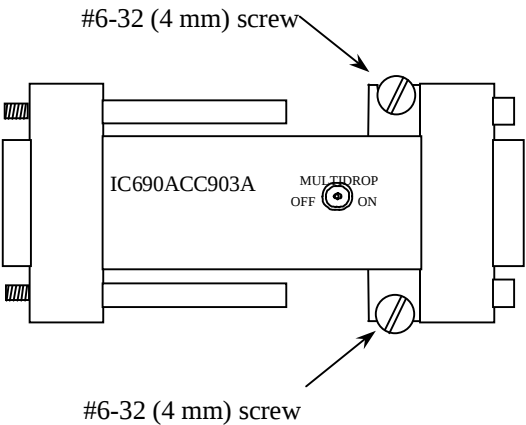

Figure 2. Port Isolator Mounted to Panel
The Isolator is packaged in a plastic enclosure designed for either (1) direct attachment to a serial port or (2) attachment through the optional IC690CBL003 12” extension cable for panel mounted applications. Two M3 thumbscrews secure the Port Isolator to its mating connector. If panel mounting the Isolator using the optional extension cable, you will need to provide the two 6-32 x 3/8” (4 x 9 mm) mounting screws (see Figure 2 below).